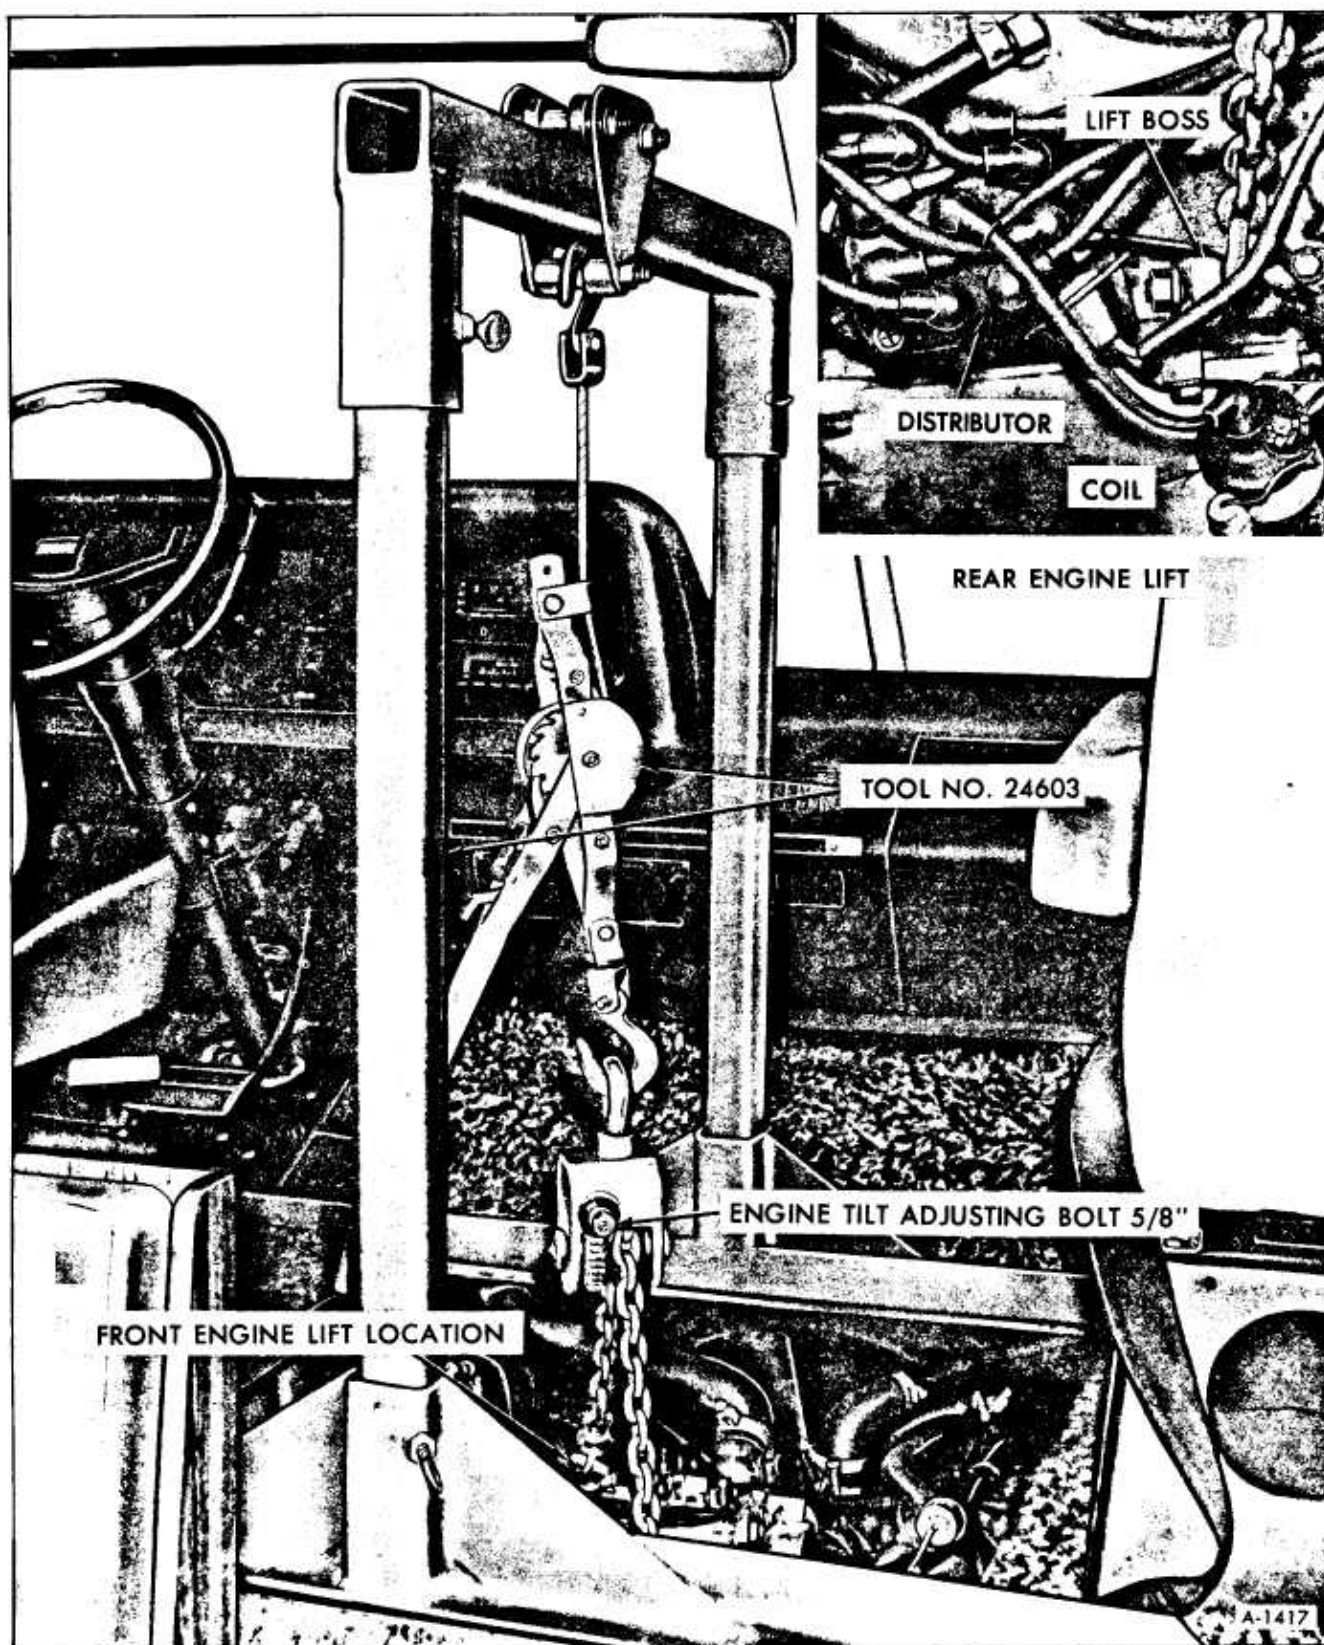

Figure 5-Attaching Engine Removal Tool
2. Attach engine lift tool No. J-24603 as shown in Figure 5.